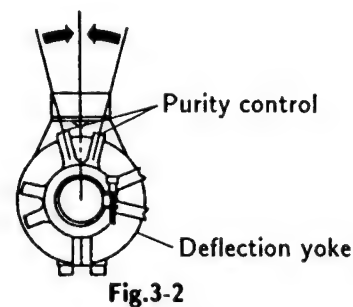

Fig.3-2
2. Position neck ass'y as shown in Fig 3-2.